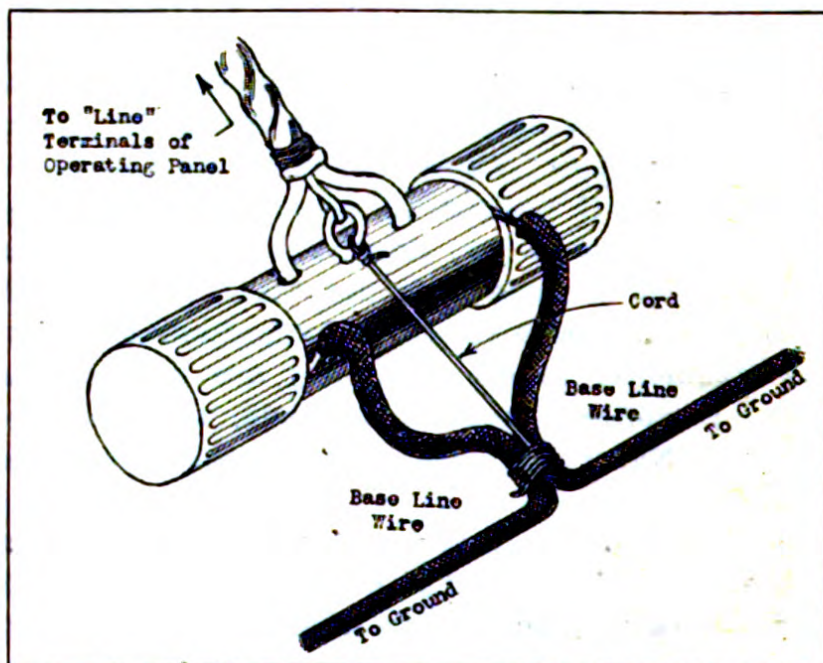

Fig. 3—Method of Tying Line Wire to Special Connector.
4. To relieve any mechanical strain on the special connector, tie the two line wires together with a piece of cord, about 6 or 8 in. away from the connector and tie one end of this cord through or around the metal ring in the center of the connector, Fig. 3.